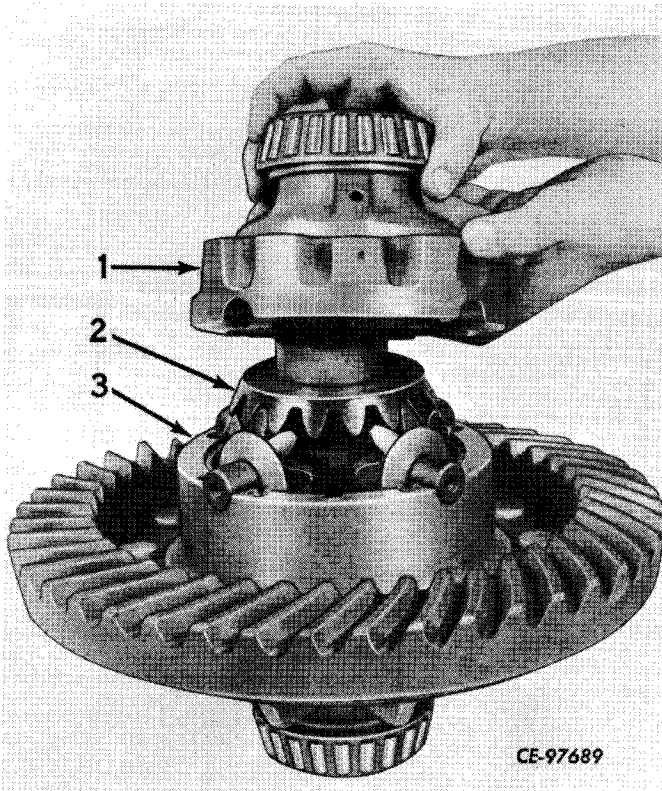

Figure 6-28
Remove cap screws and nuts that retain differential case halves and remove plain half (1, Fig. 6-28). Remove side gear (2).